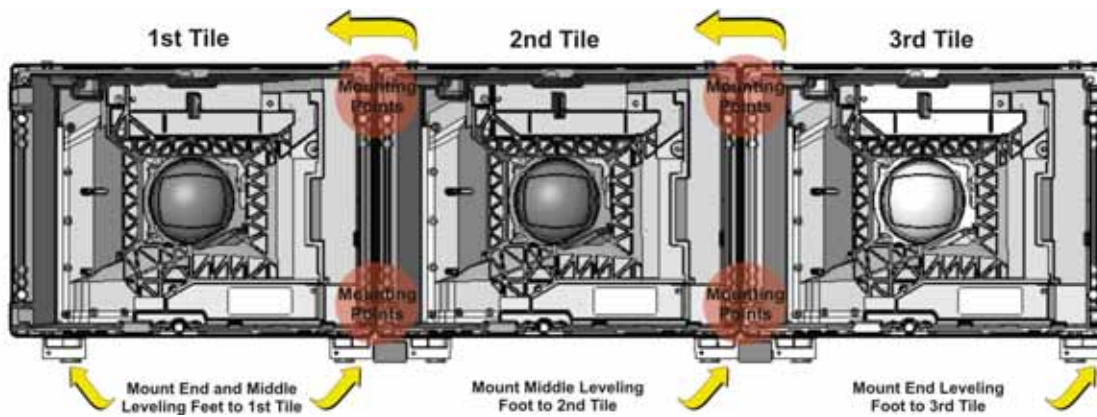

Figure 2-10 Construct the First Row of MicroTiles
8. Hand thread a horizontal adjustment screw (**Figure 2-10**) into the mounting points between the first two tiles (**Figure 2-10**). DO NOT completely tighten until the entire row is complete to allow for adjustments. **NOTICE!** *The horizontal adjustment screw is optional and is provided to aid in the fine optimization of the seams.*